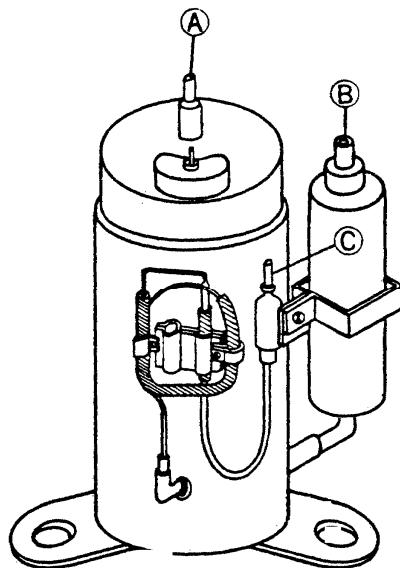

Fig. 25
- 2) Three sections of the replacement compressor (A) (B) and (C) are sealed to avoid entry of dust and water. Remove this seals, then connect to the unit tubing when replacing the compressor. Fig. 25